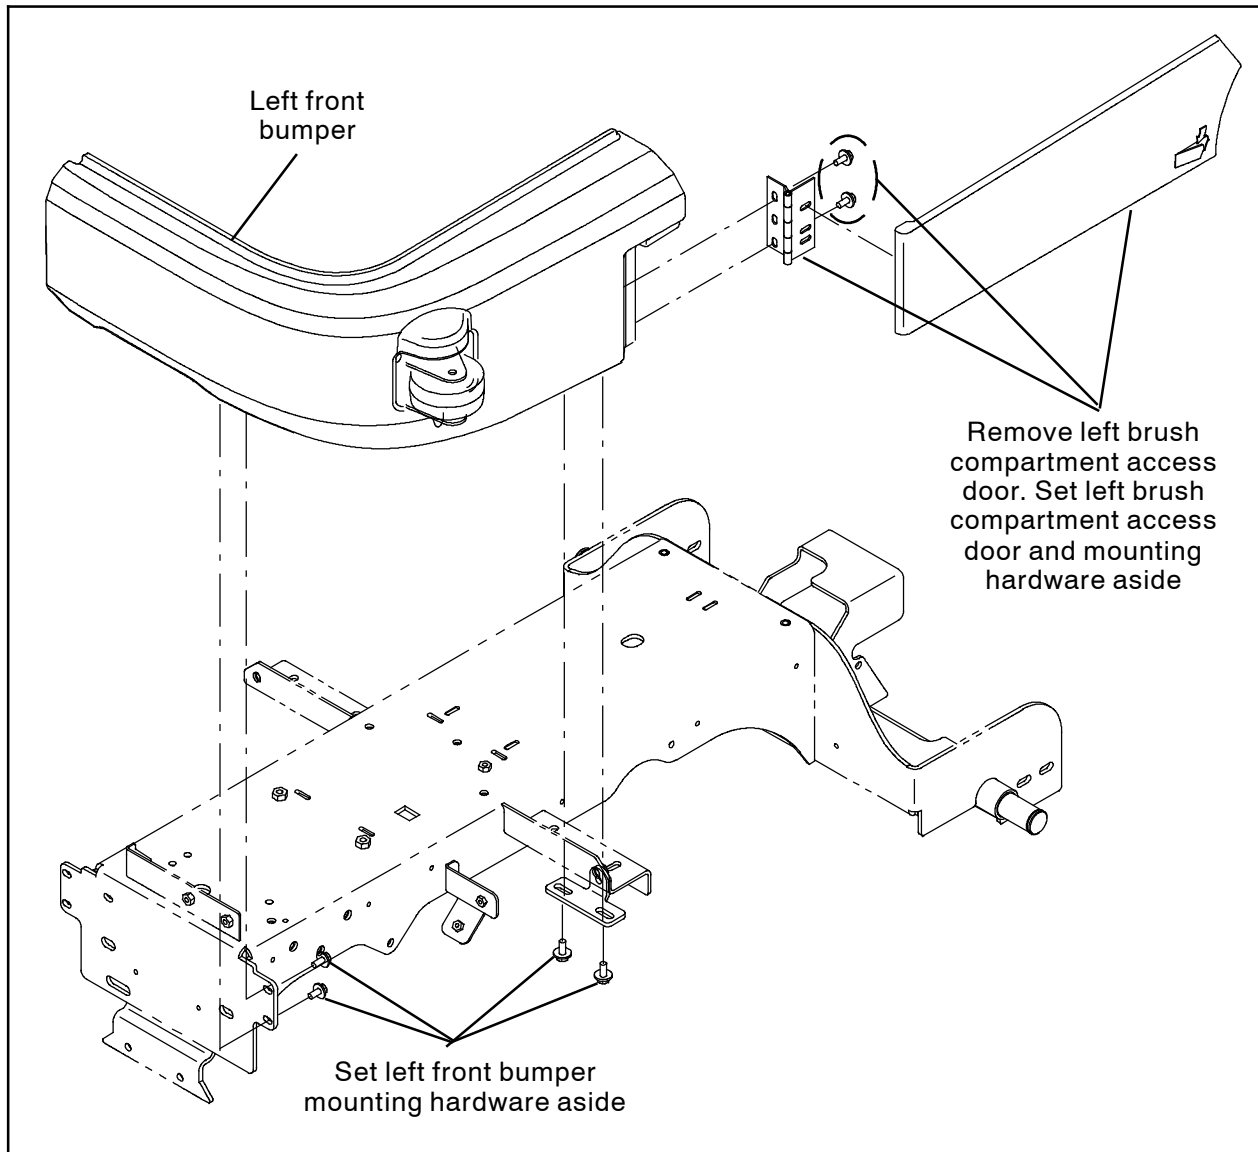

FIG. 1
1. Remove the left brush compartment access door from the machine. Set the left brush compartment access door and all mounting hardware aside. (Fig. 1)
2. Remove the left front bumper from the machine. Set the bumper and all mounting hardware aside. (Fig. 1)
7. Reinstall the front left bumper onto the machine. (Fig. 1)
8. Reinstall the left brush compartment access door onto the machine. (Fig. 1)
14. Reinstall the left brush compartment access door onto the front left bumper. (Fig. 1)